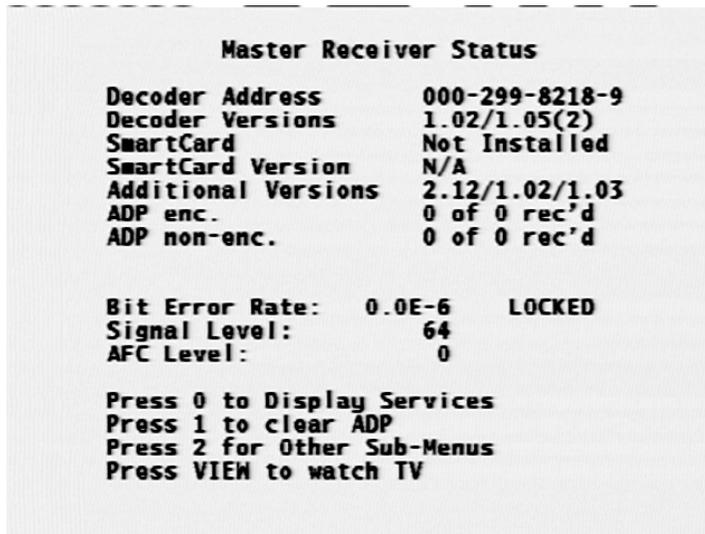

Figure 3-4. Receiver Status Menu
Step 1. Press the **MENU** button at the receiver front panel (see Figure 3-4).
Step 1. Press the MENU button at the receiver front panel to display the Receiver Status menu (see Figure 3-4).
- Step 1.** Press the **MENU** button on the receiver front panel to display the Main menu (see Figure 3-4).